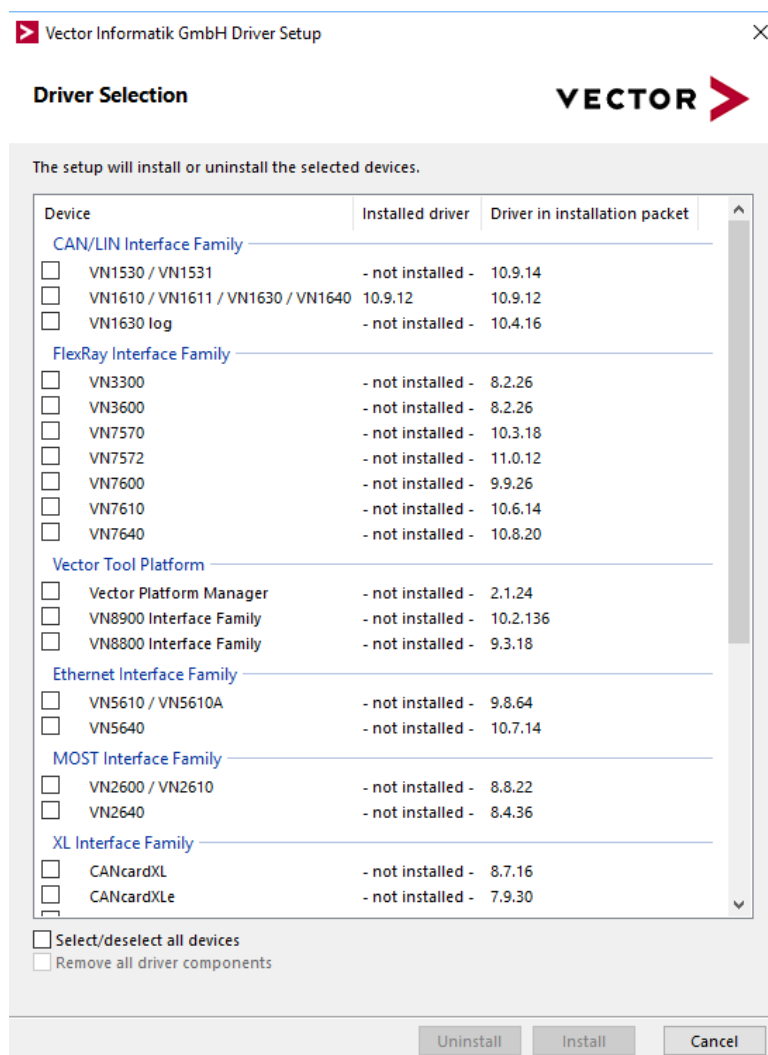

Fig. 4.48: Vector driver selection
- Select the drivers of the hardware device that shall be used and run the installation procedure (see Fig. 4.48).